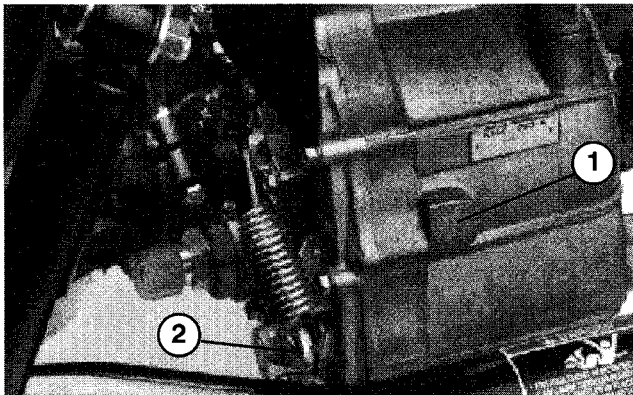

Figure 47
CHANGING TRANSAXLE / HYDRAULIC FLUID (Fig. 47)
2. Remove drain plug (Fig. 47) from side of reservoir and let hydraulic fluid flow into drain pan.